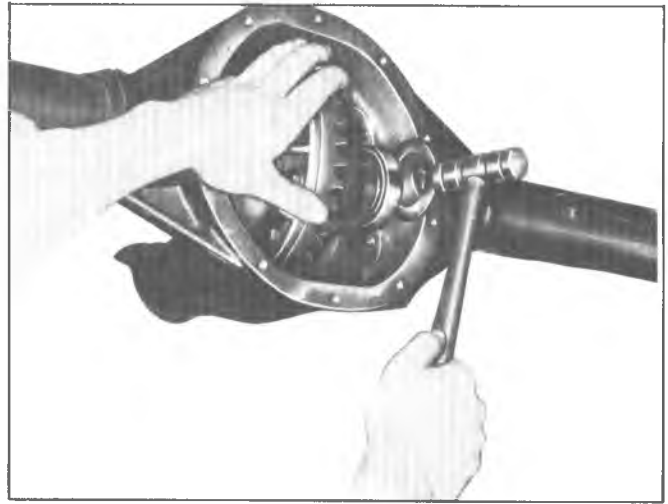

Fig. 9B—Installing Differential Shim
11. If difficulty is encountered in installing shim, partially remove case and slide case and shim into position. Tap shim into position, using a soft faced hammer, while rotating differential case with free hand as shown in Figure 9B.